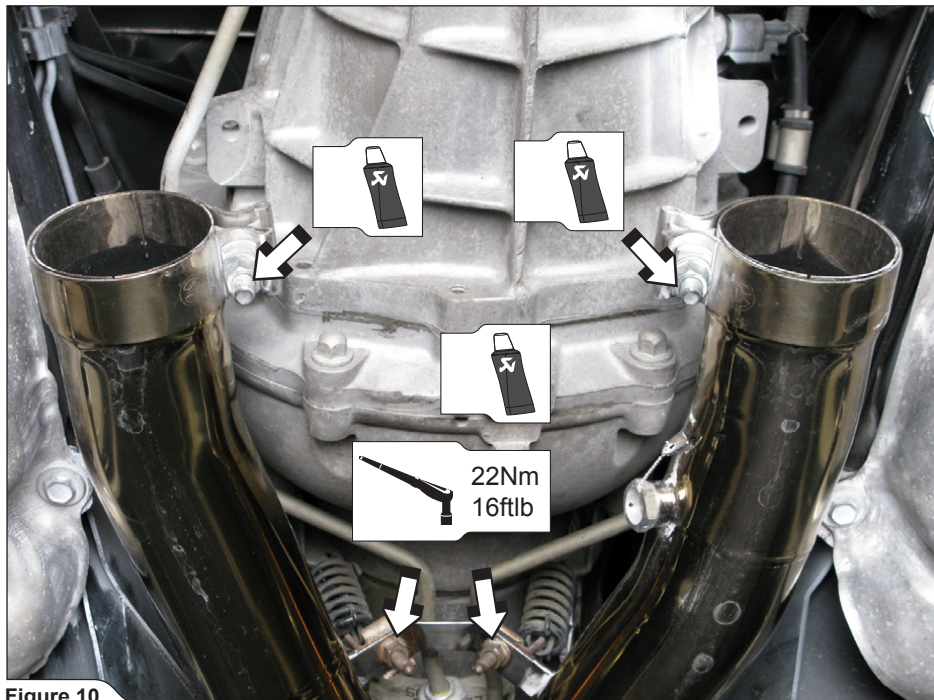

Figure 10
1. **For Evolution only:** correctly assemble the clamps onto Akrapovič front tubes and tighten the front tubes bracket (**Figure 10**).